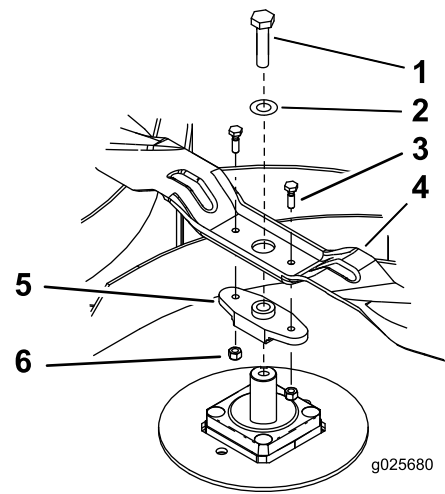

Figure 3
8. Install the right-hand mulch blade to the blade driver with 2 shear bolts and 2 lock nuts (1/4 inch) (Figure 3).
9. Install the left-hand mulch blade to the blade driver with 2 shear bolts and 2 lock nuts (1/4 inch) (Figure 3).
11. Install the blades with the drivers to the gearbox shafts with the previously removed blade bolts and washers (Figure 3).